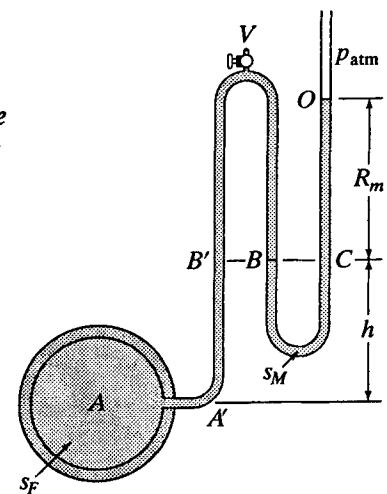

Figure 3.11
3.10 The diameter of tube C in Fig. 3.11 is  $d_1$ , and that of tube B is  $d_2$ . Let  $z_0$  be the elevation of the mercury above A when both mercury columns are at the same level.  $R$  is the distance the right-hand column of mercury rises above  $z_0$  when the fluid in A is under pressure. Let  $\gamma'$  be the specific weight of the mercury (or any other measuring fluid), while  $\gamma$  is the specific weight of the fluid in A and the connecting tubing. Prove that  $p_A = \gamma z_0 + [\gamma' + (\gamma' - \gamma)(d_1/d_2)^2]R = M + NR$  where  $M$  and  $N$  are constants. Note that this equation involves only one variable, which is the reading  $R$  on the scale for column C. It also shows the significance of having  $d_2$  large compared with  $d_1$ .